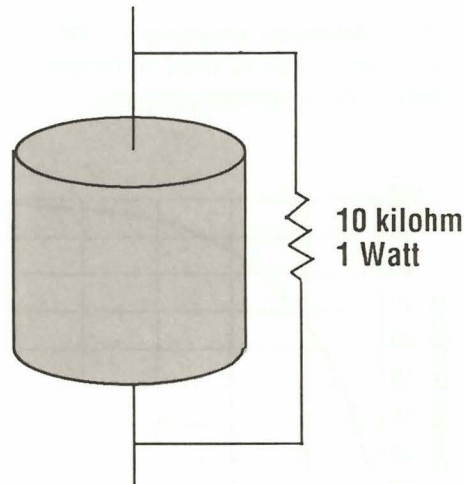

Fig. 5: Connect a 10 k ohm 1 watt resistor across the capacitor terminal for discharging.
2. Carefully discharge the capacitor you are testing by connecting a 10K ohm 1 watt resistor across the terminals (Figure 5).